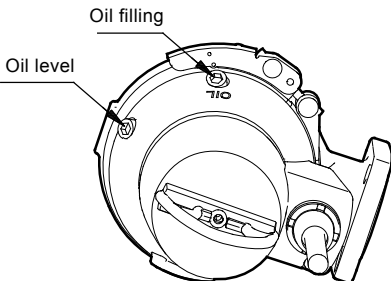

Fig. 11 Oil filling holes
1. Place the pump in such a position that it is lying on the stator housing and the discharge flange and that the oil screws are pointing upwards. See fig. 11.